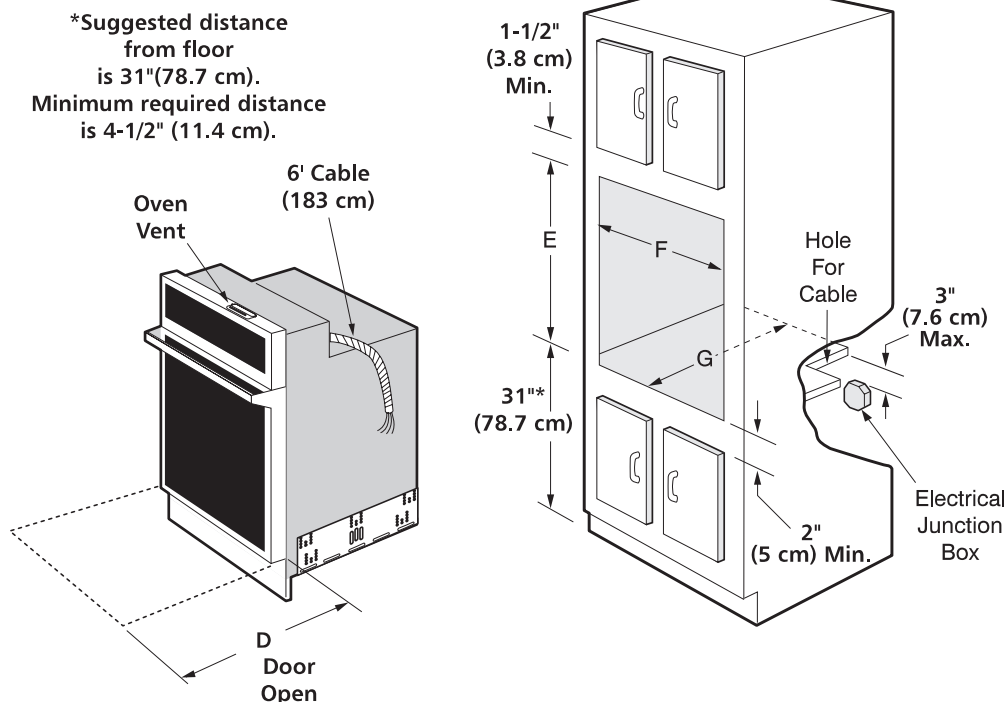

Figure 1
1. With oven positioned in front of cabinet opening, connect the appliance cable to the junction box through the U.L.-listed conduit connector. Complete electrical connection according to local codes and ordinances. See preferred junction box location in Figure 1 on page 4.